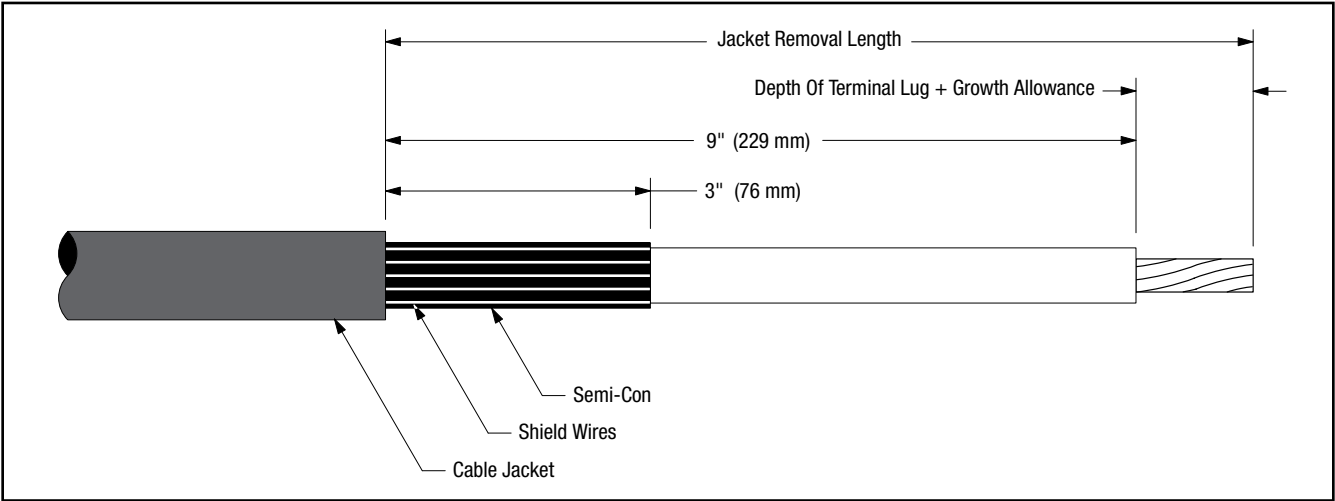
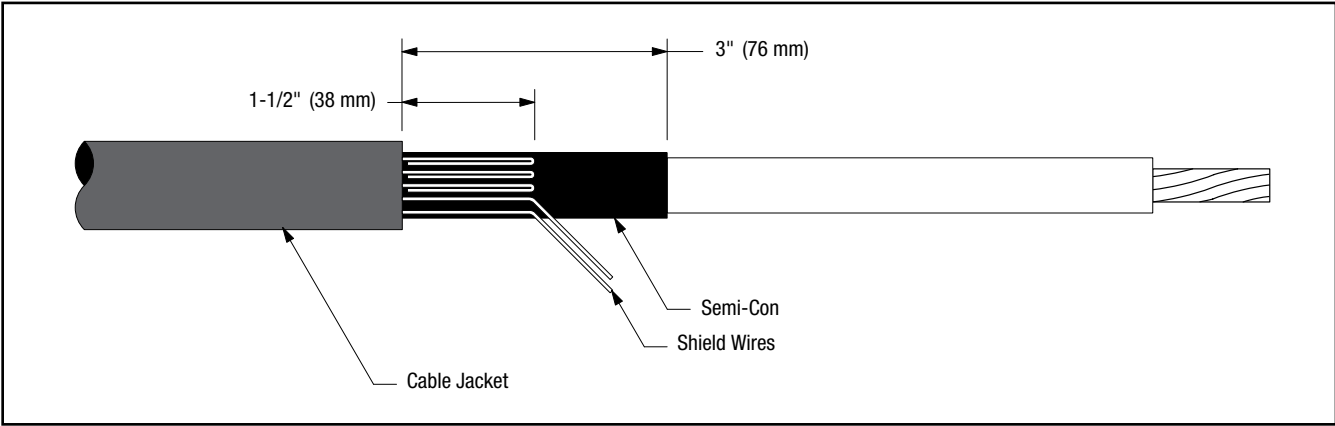

Figure 8
Figure 9
- 7.2 Prepare cable using dimensions shown in Figure 8 and Figure 9. **BE SURE TO ALLOW FOR DEPTH OF TERMINAL LUG.**
- 7.3 Bend leading 1-1/2" (38 mm) of exposed shield wires back upon themselves to jacket edge (Figure 9).